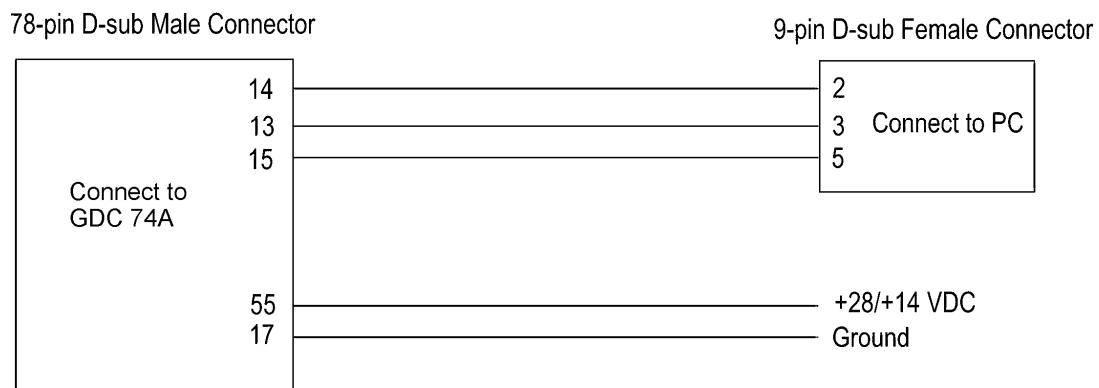

Figure 5-5. GDC 74A - PC Interface Cable
- Fabricate a cable built to interface a GDC 74A to a PC Serial Port (see Figure 5-5). Cable is not available from Garmin.
3. Connect the GDC 74A - PC Interface Cable to the power supply (Figure 5-5).